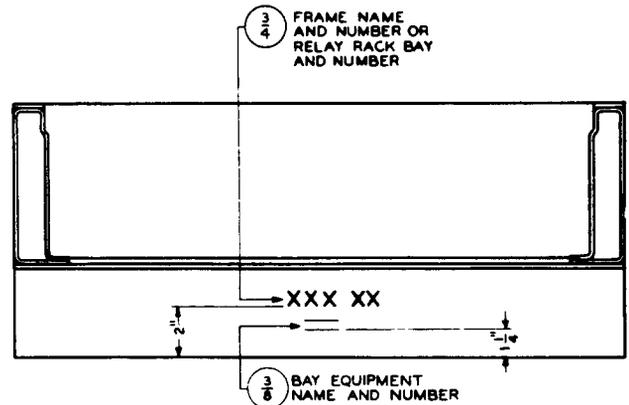

Fig. 9 - Plan View of Rear of Single-bay, Box-type Frame Base
- (b) *On the rear*, centered on the top surface of the frame base and on the fixed rear cover (when furnished) of the left upright in one, two, or three lines, as shown in Fig. 9 and 10.
- (b) *On the rear*, centered on the top surface of the frame base below the frame name and number and on the fixed rear cover (when furnished) of the left upright, as shown in Fig. 9 and 10.